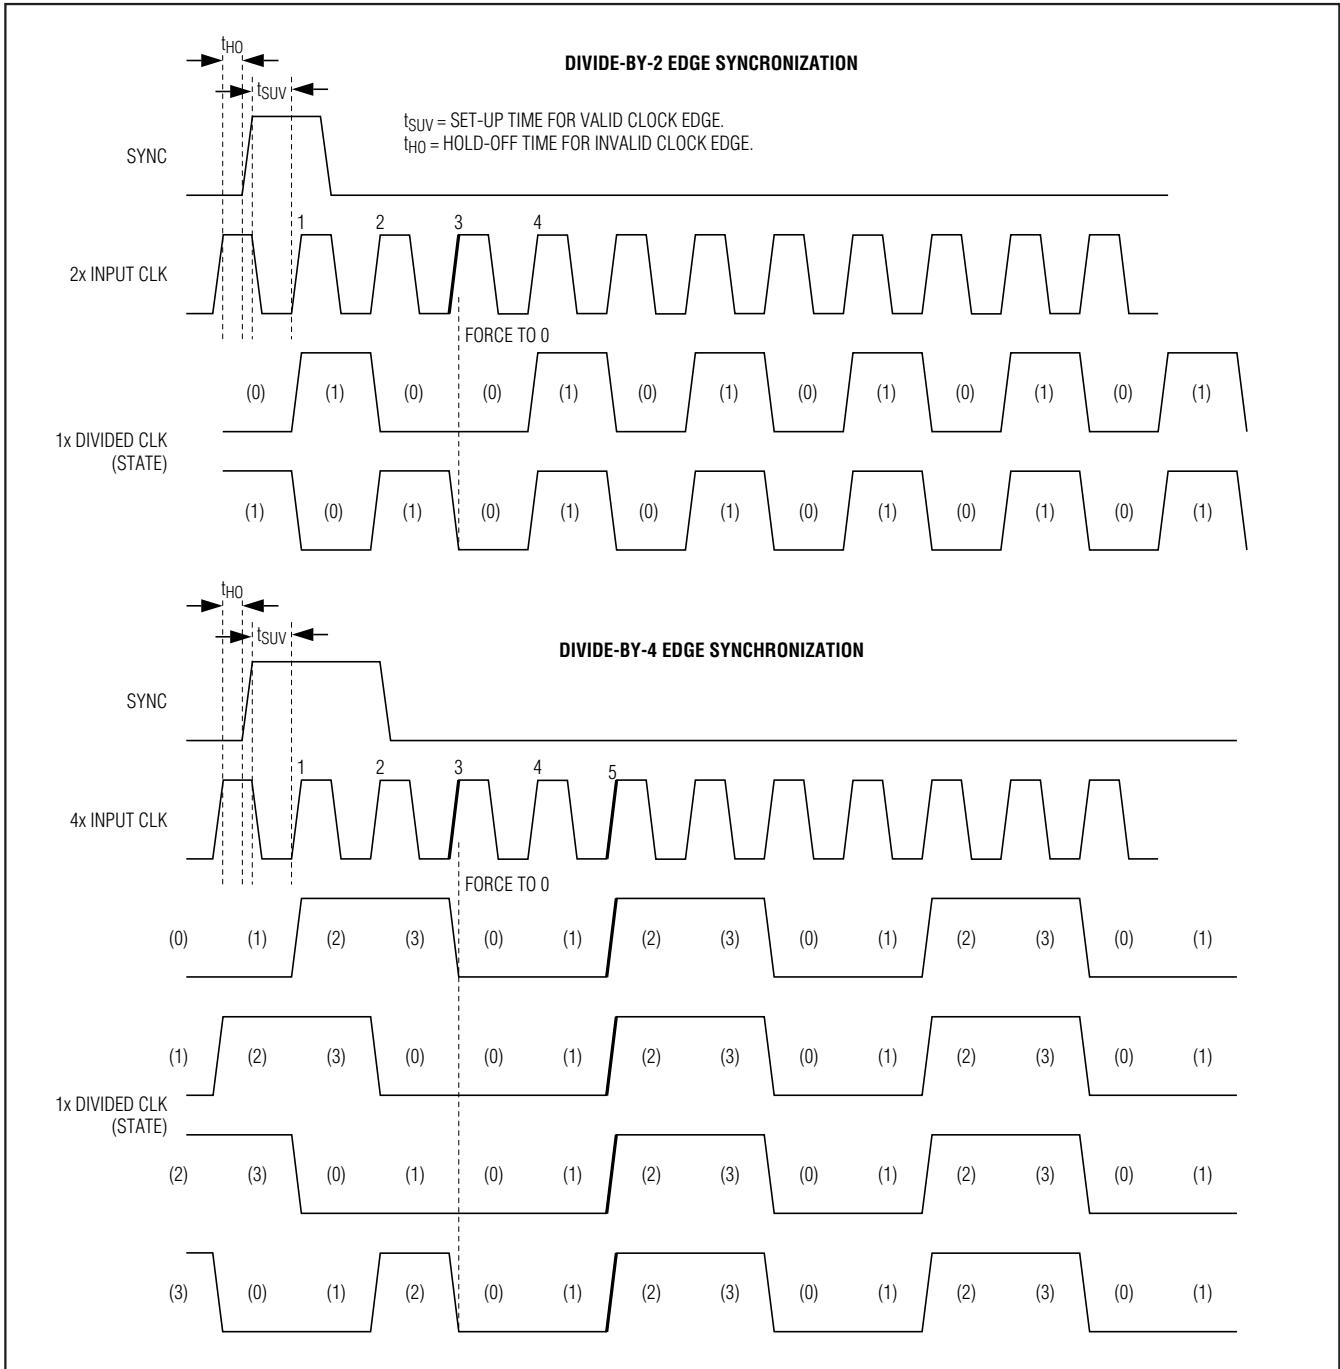

Figure 12. Edge Synchronization Mode
1 = Edge mode (Figure 12)
**Edge Synchronization Mode, SYNC\_MODE = 1:** On the third rising edge of the input clock (CLK) after the rising edge of SYNC (provided set-up and hold times are met), the divided output is forced to state 0. A divided clock rising edge occurs on the fourth ( $1/2$  mode) or fifth ( $1/4$  mode) rising edge of CLK, after a valid rising edge of SYNC (Figure 12).